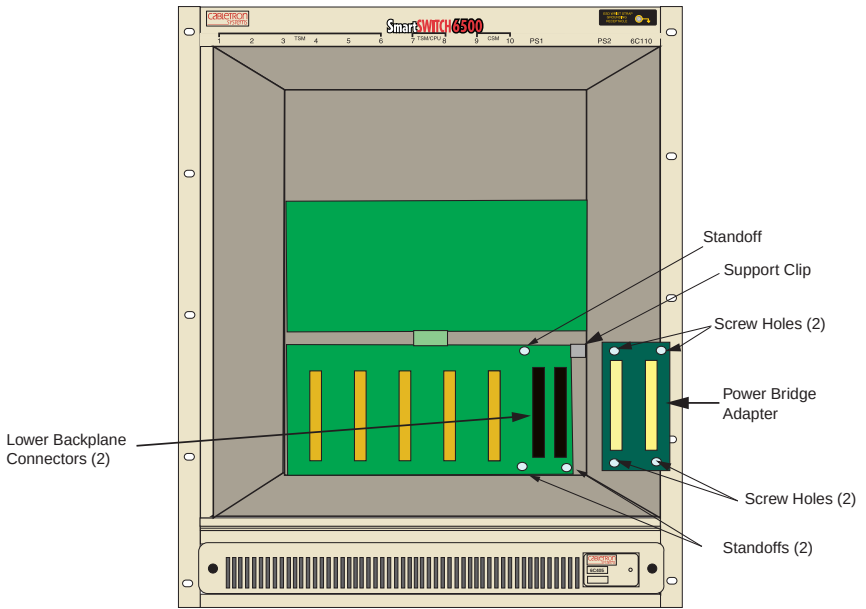

Figure 3-10 Installing the Power Bridge Adapter
6. Connect the rear (black) power bridge adapter connectors to the lower backplane connectors of the chassis. Ensure the connectors are firmly seated together, and the screw holes of the power bridge adapter align with the standoffs installed in step 4 and the support clip installed in step 5. See Figure 3-10.
7. Attach the power bridge adapter to the lower backplane by fastening the three screws to the standoffs installed in step 4 and one screw to the support lip installed in step 5. See Figure 3-10.